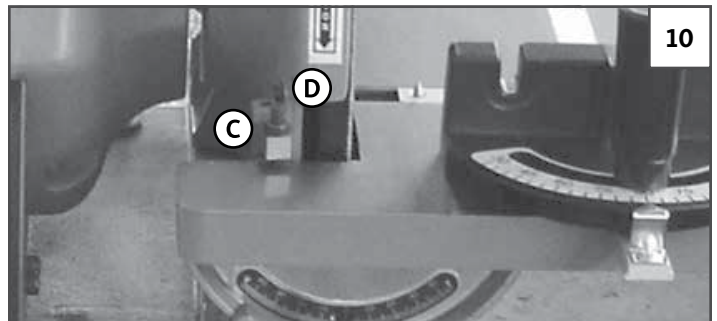

FIGURE 10: ADJUSTING 90° STOP
5. Loosen **LOCK NUT (C)** using a 10 mm wrench. See Figure 10.
6. Adjust **SET SCREW (D)** using the supplied 3 mm Allen key until the screw rests on the table.
7. Re-tighten **LOCK NUT (C)**.